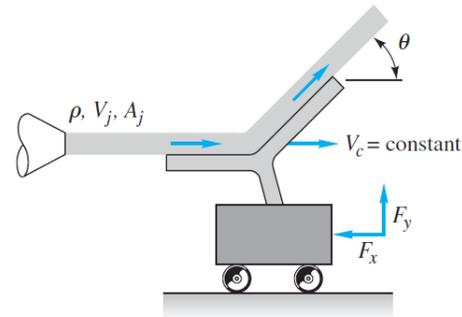

Fig. 3.16
3.16 In Fig. 3.16 the jet strikes a vane that moves to the right at constant velocity V_c on a frictionless cart. Compute a) the force F_x required to restrain the cart and b) the power P delivered to the cart. Also find the cart velocity for which c)